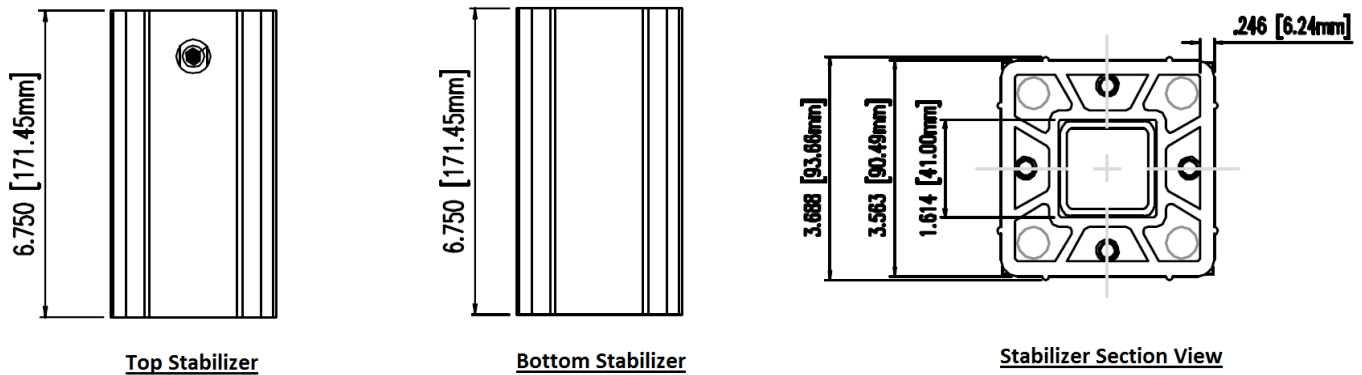

FIGURE 7 – POST STABILIZERS FOR ATLAS-PRO AND ADVANTAGE V2
3.5.3 Post Stabilizers – For the top rail, $3\frac{1}{2}$ -square by $5\frac{1}{8}$ -inch high ribbed PVC block, and bottom rail a $3\frac{1}{2}$ -inch square by $6\frac{3}{4}$ -inch high ribbed PVC block (See Figure 7).
3.6.3 Post Stabilizers – For the top rail, $3\frac{1}{2}$ -square by $5\frac{1}{8}$ -inch high ribbed PVC block, and bottom rail a $3\frac{1}{2}$ -inch square by $6\frac{3}{4}$ -inch high ribbed PVC block (See Figure 7).